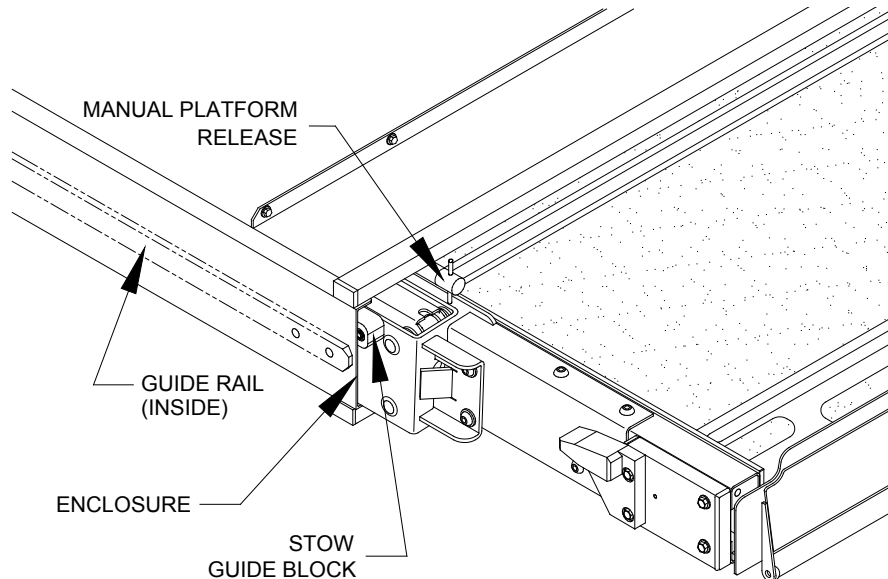

FIGURE 2-15: STOW GUIDE BLOCK ALIGNMENT
- 3) Refer to **Figure 2-15**. Release manual platform lock and then hand-push platform into enclosure. Stop pushing when front face of white stow guide block (tear-drop shaped plastic block) is adjacent to front edge of enclosure. The stow guide block will be visible from front of lift.
- 3) Refer to **Figure 2-15**. The mating connector for the optional programming switch is attached to the underside of the controller bracket. The connector is protected with a removable plug. Connect programming switch to connector.